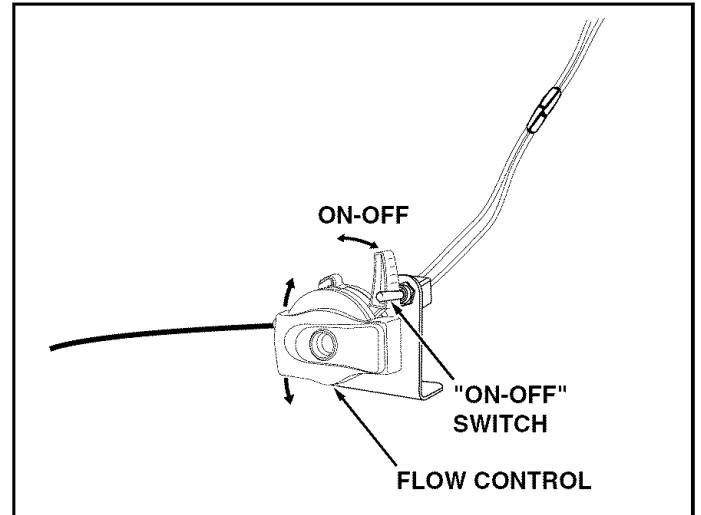

FIGURE 12
25. Move the flow control lever to "OFF". This should turn the "ON-OFF" switch off. If it does not, you can loosen the control and rotate it enough that the flow control lever, when moved to the "OFF" position will turn the switch off. See figure 12.